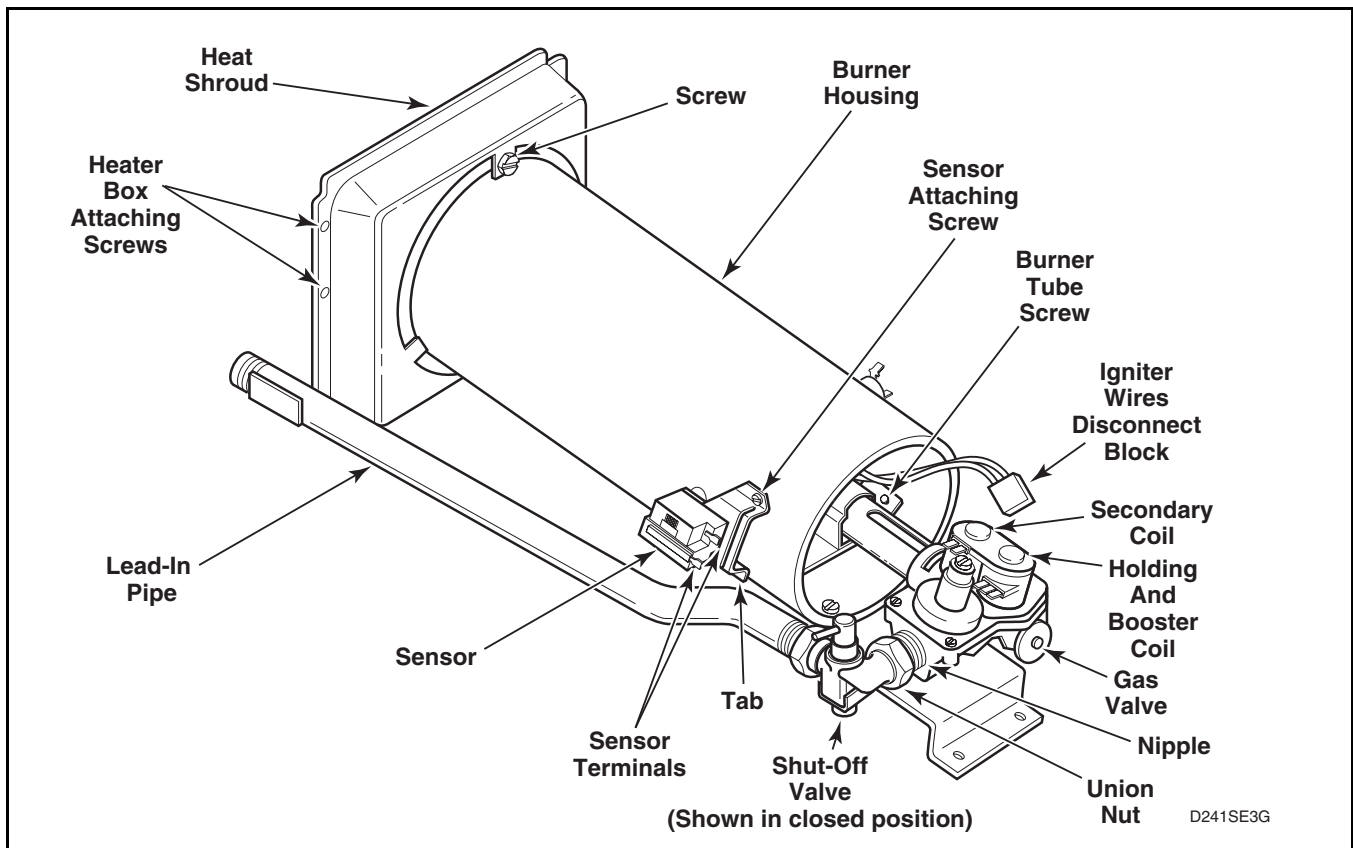
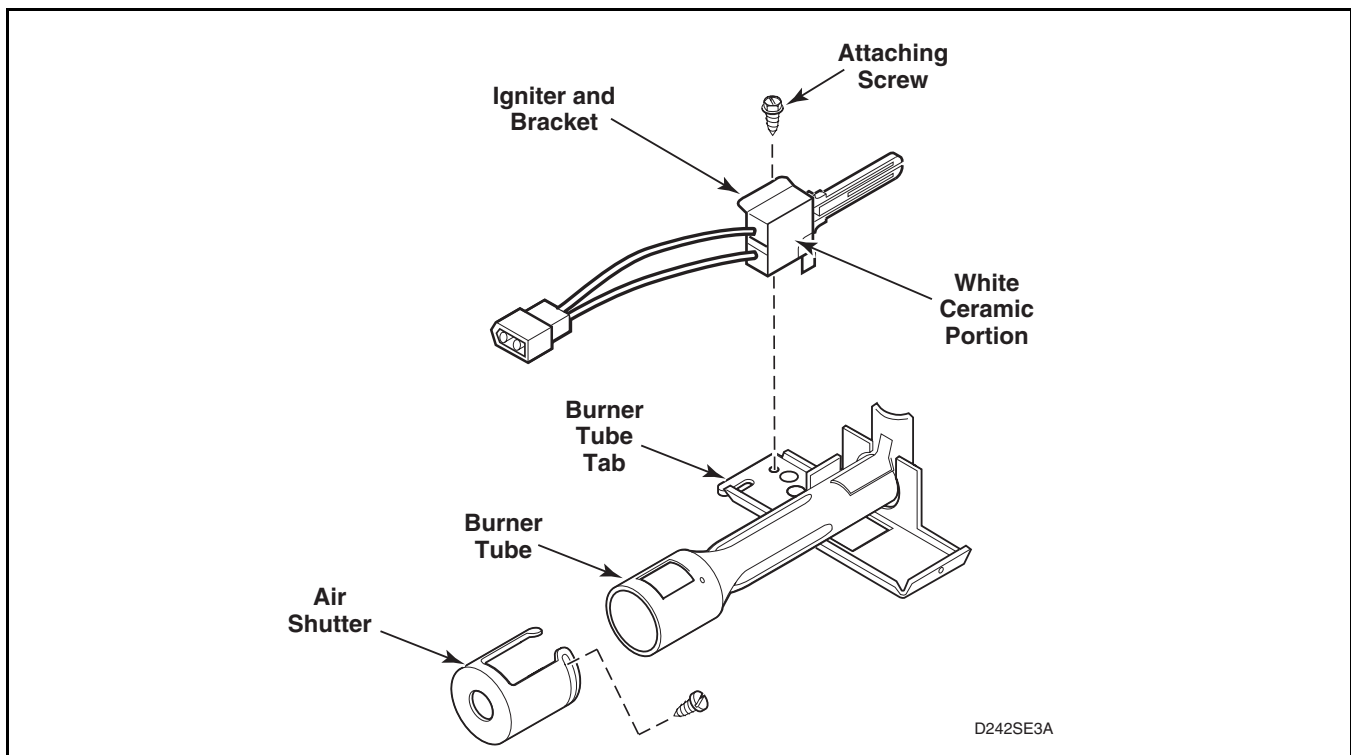

Figure 19
Figure 20
from gas valve coils at the quick disconnect blocks. Refer to *Figure 19*.
- (2) Disconnect gas shut-off valve from gas valve at the union nut. Refer to *Figure 19*.
- (3) Remove three screws holding valve and mounting bracket to base. Refer to *Figure 19*.
- (4) Lift gas valve and mounting bracket from base. Refer to *Figure 19*.
- (2) Gently move burner tube toward rear of dryer to disengage tab from slot on left side of burner housing. Refer to *Figure 19*.
- (3) Carefully rotate burner tube and igniter **counterclockwise** so tab is at 8 o'clock position.
- (4) Move air shutter end of burner tube slightly to right and **CAREFULLY** remove burner tube and igniter assembly out through front of dryer.
- (5) Remove screw holding igniter and bracket to burner tube and remove igniter and bracket. Refer to *Figure 20*.
- (1) Remove wires from sensor terminals. Refer to *Figure 19*.
- (2) Remove screw holding sensor to burner housing. Refer to *Figure 19*.
- c. Disconnect igniter wires at disconnect blocks, sensor wires from sensor terminals, and wires from gas valve coils at the quick disconnect blocks. Refer to *Figure 19*.
- e. Gently move burner tube toward rear of dryer to disengage tab from slot on left side of burner housing. Refer to *Figure 19*.
- h. Remove screw holding burner housing to heat shroud. Refer to *Figure 19*.